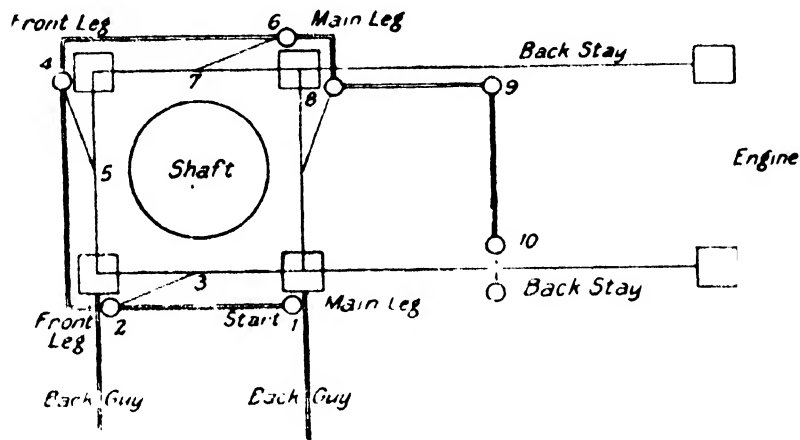

FIG. 65.—Order of Erection of Headgear.
movement of the derrick. The accompanying sketch (Fig. 65) will convey an idea of the way to take the lifts in correct sequence to avoid unnecessary labour; the path of the derrick being clearly outlined. From the main leg (1) the derrick is walked across to the position of one front leg (2) and the latter is then lifted. The legs when erected will lie sheered over considerably, consequently the back guys must be of ample strength and of secure anchorage, because in addition to the weight of the legs the latter have to be braced. While cross bracings are being fixed the legs need to be swung about somewhat, and this action puts extra strain upon the